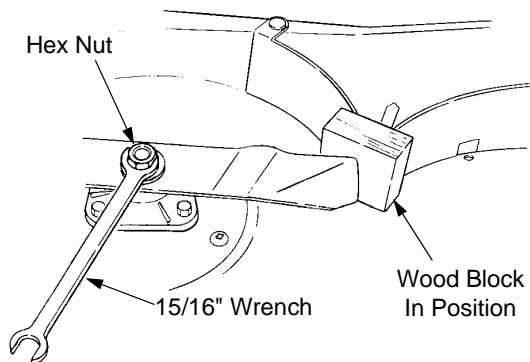

Figure 32
- Use a 15/16 inch wrench to hold the hex nut on top of the spindle assembly when loosening the hex nut securing the blade. A block of wood may be placed between the deck housing and the cutting edge of the blade to assist in removal of the hex nut securing the blade. Refer to Figure 32.